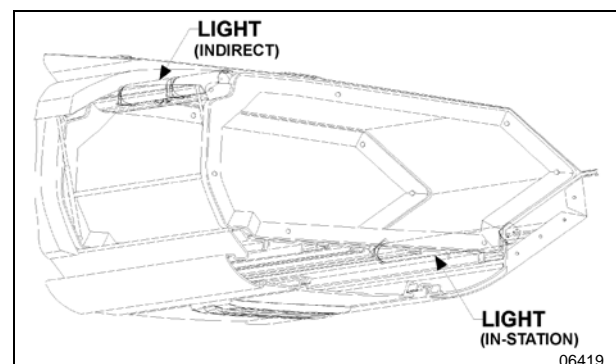

FIGURE 70: PARCEL RACK
3. Lift the hinged cover and replace the two retaining screws (**FIGURE 70**).